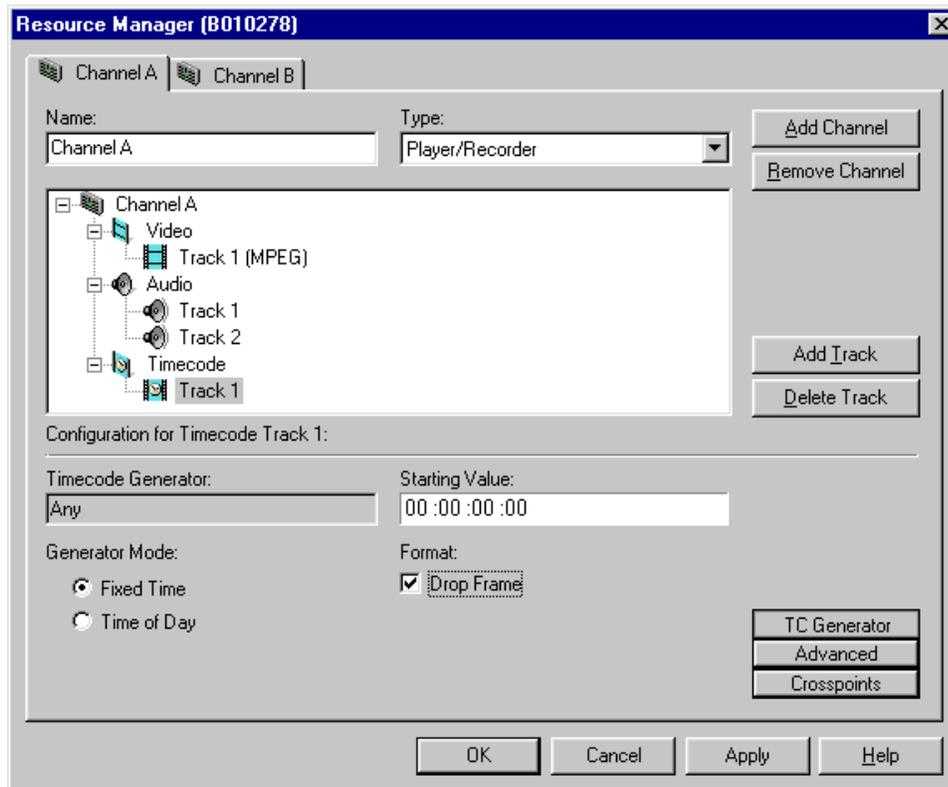

Figure 161. Timecode generator controls
1. With a timecode Track selected in the configuration tree, click the **TC Generator** button. The timecode generator panel appears (see Figure 161). The controls are dimmed except when “Internal Generator” is the timecode input.